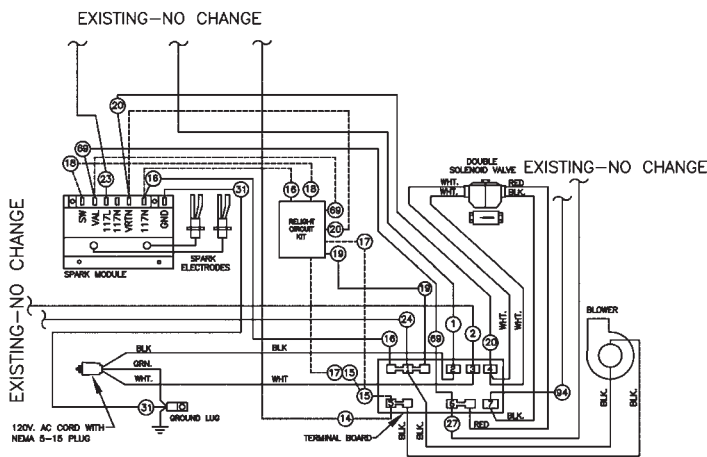
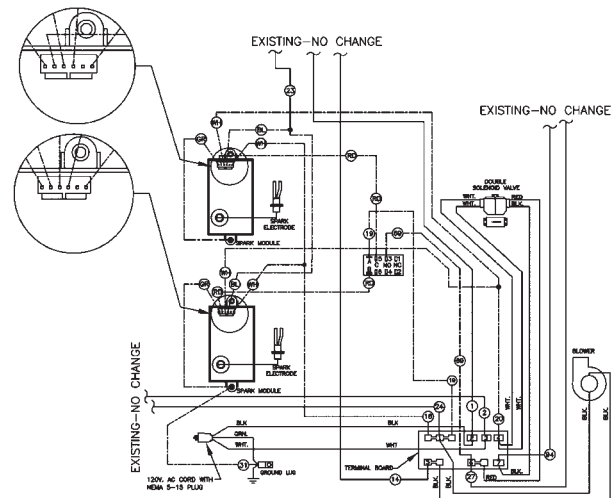

FIG 2. WIRING DIAGRAM FOR IFMs WITH DUAL-ELECTRODE SPARK IGNITION MODULE (PART # 019724) AND RELIGHT CIRCUIT KIT
FIG 3. WIRING DIAGRAM FOR IFMs WITH TWO SINGLE-ELECTRODE SPARK IGNITION MODULES (REPLACEMENT, PART #037978) AND 120VAC DPDT RELAY (PART #008088)
9. Make connections between the two modules by installing the supplied wire harness. Refer to Fig. 2 below for detailed wiring. Dashed lines in Fig. 2 show the removed and discarded wires. Dashed lines in Fig. 3 below show the added/rewired connections. Solid lines show unaltered wiring in both Fig. 2 and 3.